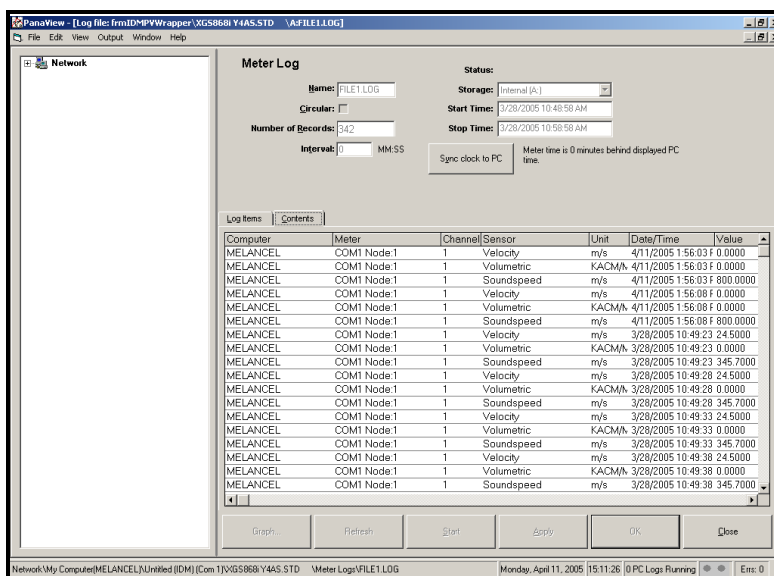

Figure 3-12: Typical Log Contents
- Click on the *Contents* tab (see Figure 3-12 on page 3-11) for a list of all the data points logged to date for the parameter currently highlighted on the *Log Items* tab.
Remember that only two parameters per channel may be graphed, and that the same two parameters must be graphed for each channel of a multi-channel graph display. When you have finished viewing the graph, click on the [Close] option button to close the Graph window and leave the log running. To review log details, click on the *Contents* tab. The window now appears similar to Figure 3-12 below.
- Click on the *Log Items* tab (see Figure 3-12 on page 3-11) for a list of the parameters specified for logging.